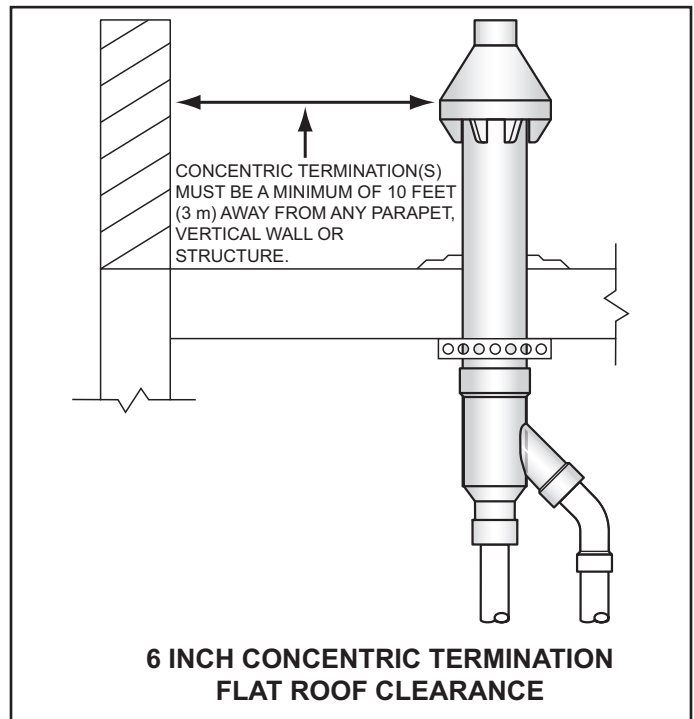
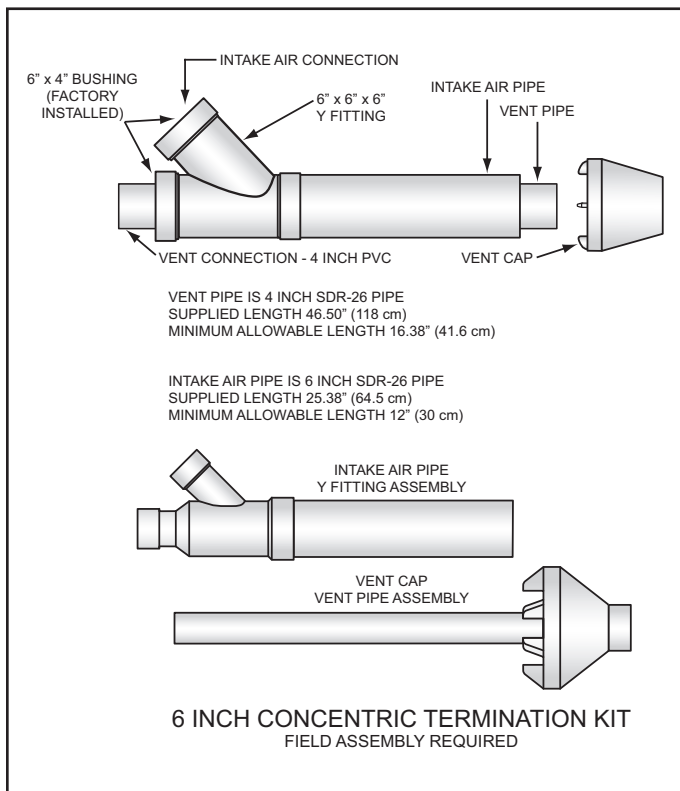
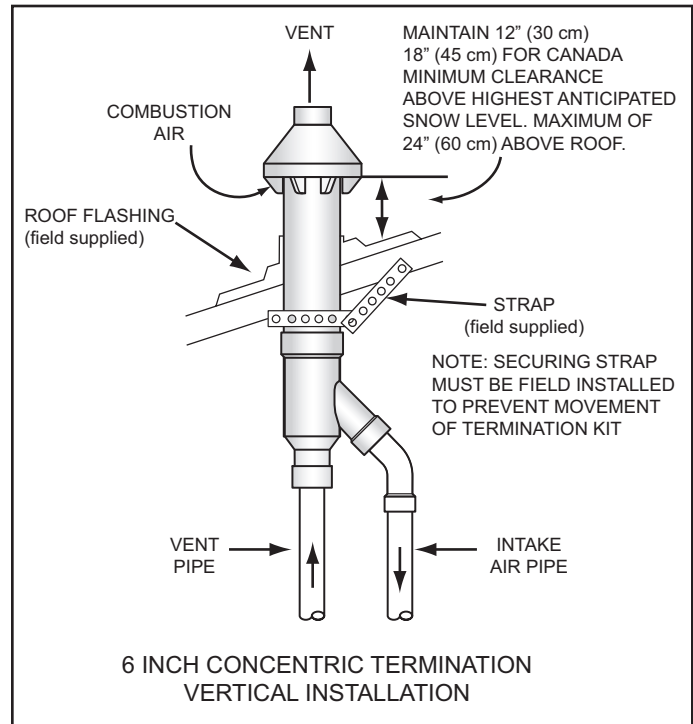
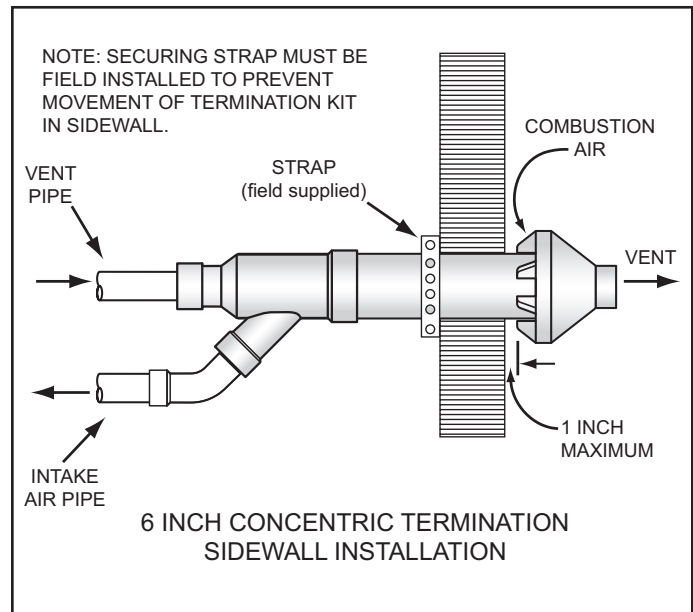

Figure 24
Figure 25
Figure 26
Figure 27
3. When installing a concentric termination vertically through the roof; ensure that all exterior vertical clearance requirements for the concentric termination, shown in Figure 24 on page 29 and Figure 26 on page 30, are being maintained. These clearances and those cited by local and national codes must be maintained.
4. When installing a concentric termination vertically through a flat roof, the termination's vent cap must be a minimum of 10 feet (3 m) away from any parapet, vertical wall or structure as shown in Figure 24.
See Figure 25 for the minimum lengths allowed for the 4 inch concentric termination.
Assemble and install the 6 inch concentric termination. Refer to Figure 25, Figure 26 and Figure 27 for these instructions: